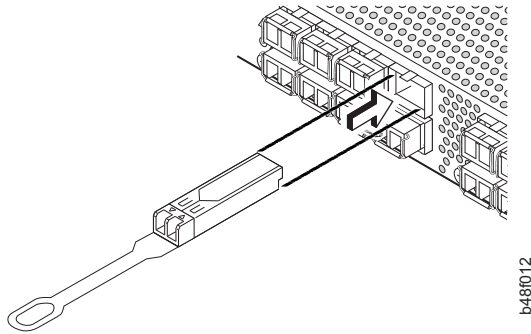
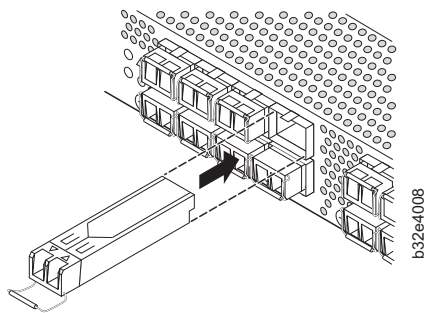

Figure 8. Installing a 16 Gbps SFP+ with pull tab (shown without cable attached)
Figure 9. SFP+ with wire bail latch
The 16 Gbps SFP+ transceivers have an attached pull tab and no latching wire bail. To simplify insertion of the 16 Gbps SFP+ transceivers, it is recommended to connect the cables first, and then insert them as a unit into the port. Figure 8 on page 20 shows the installation of a 16 Gbps SFP+, and Figure 9 on page 20 shows the installation of an 8 Gbps SFP+ with a wire bail latching mechanism.
1. Making sure that the bail (wire handle) is in the unlocked position, place the 8 Gbps SFP+ in the correctly oriented position on the port, as shown in Figure 9.